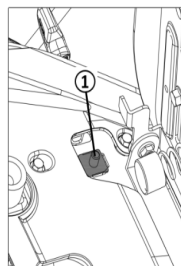

Figure 30
The seat contact switch (Figure 30 ①) ensures that the engine cuts off when nobody is on the operator's seat when the mowing mechanism is switched on or when the parking brake is not locked.